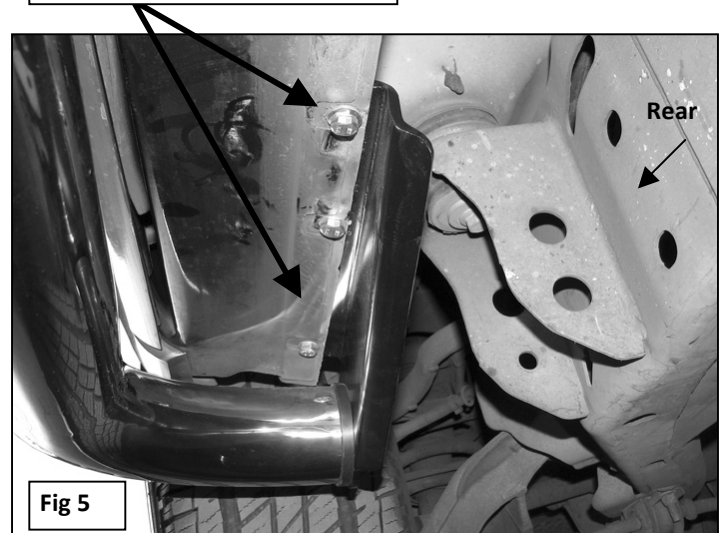

Fig 5
5. Select the passenger Sidebar and carefully place it up to the Brackets. Bolt the Side Bar to the Mounting Brackets with the included (2) 1/2" x 2" Hex Bolts, (2) 1/2" Lock Washers and (2) 1/2" Flat Washers (**Figures 5 & 6**). Do not tighten hardware at this time.